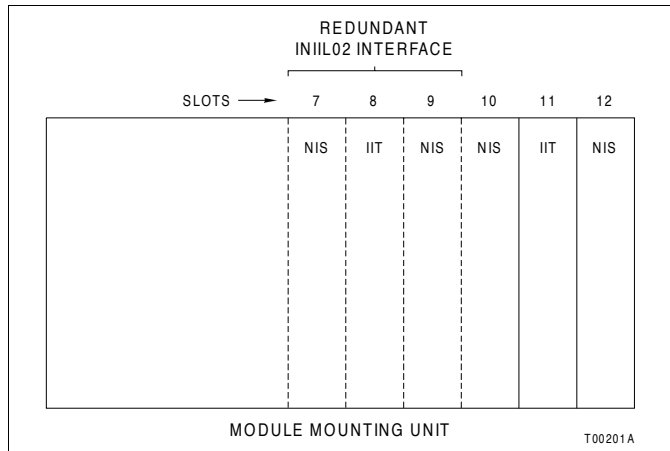

Figure 3-7. Typical INIIL02 Module Slot Assignment
1. There must be three empty slots (side by side) available in one module mounting unit to install one interface. Redundant interfaces require six slots (refer to Figure 3-7).